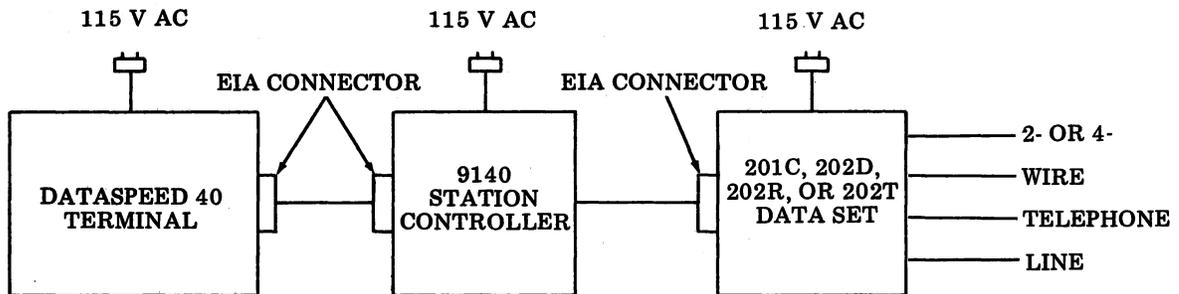

Fig. 33
3.06 In this application the 40-Type Terminal interfaces with the 9140 Station Controller, which in turn interfaces with Data Set 202D, 202R, or 202T used in a private line network (Fig. 33). A two- or four-wire tip and ring telephone connection then forms the station interface with the line. For further information on data set installation see the BSP installation sections listed in K. Data Set Installation.